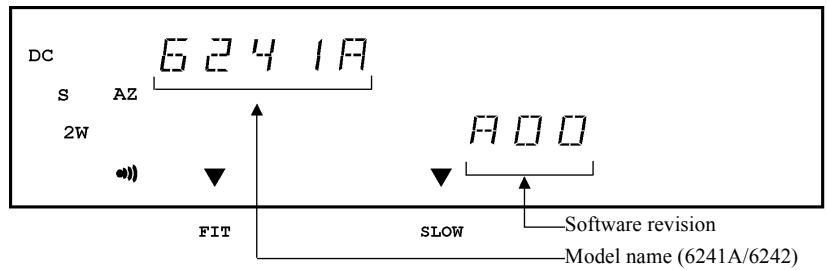
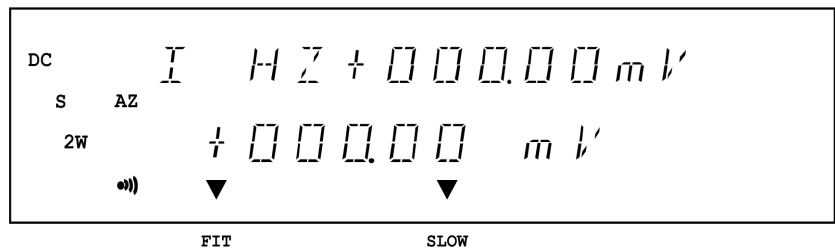

Figure 1-6 Screen Displaying Self-Test Completion
Figure 1-7 Start-up Screen
When the test is complete, the model name, line frequency, GPIB address or USB.Id and software revision appear on the screen (Figure 1-6) and then the start-up screen is displayed (See Figure 1-7).
1. Depending on the previous conditions, the screen display may be different from Figure 1-7.